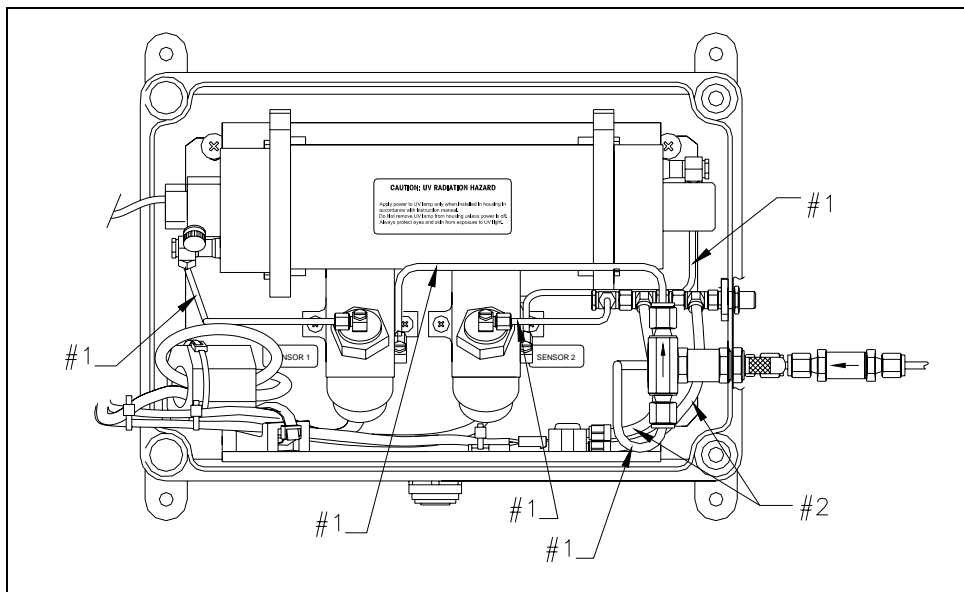

Figure 8. Location of Various Tubing Types
4. Replace the tubing as required, using the type of tubing identified in Table 1 and Figure 8.